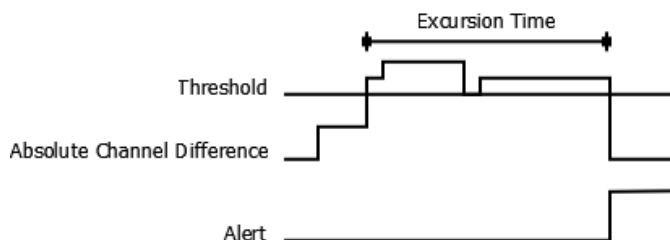
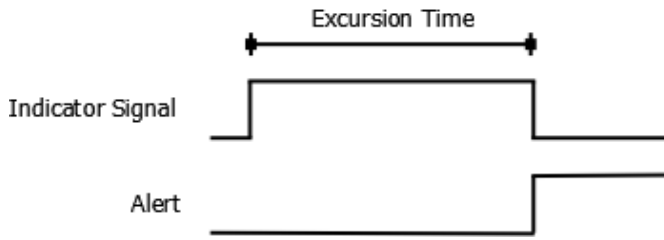
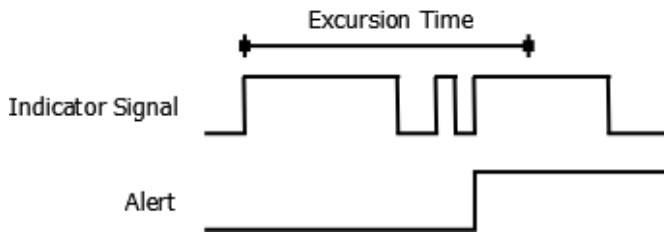

Figure 1 An Excursion Defined by the Absolute Channel Difference Equaling or Exceeding the Threshold Value for the Excursion Time Generates an Alert
Figure 2 An Excursion Defined by the Indicator Equaling a TRUE Value for the Excursion Time Generates an Alert
Figure 4 Multiple Excursion Defined by the Indicator Equaling a TRUE Value Within the Excursion Time Generates an Alert (Chatter Count = 3)
The fb_MultiChannelAlert, fb_ChannelAlert, and fb_IndicatorAlert blocks focus on channel supervision. Each adheres to the same principles of operation. An alert is generated when a sustained excursion occurs or when repeated excursions are detected. An excursion is defined as a channel, indicator, or function block output exceeding the threshold limit. For function blocks that accept a Boolean data type input, an excursion begins with a transition from a FALSE to TRUE state. For function blocks that accept measured values (MV) or REAL data type inputs, the absolute difference is calculated between the instantaneous values of two channels or a channel and a reference value. An excursion in this context is when the absolute difference exceeds a threshold value. The excursion time is used to define when an alert occurs. If a single excursion is sustained for a length of time defined by the excursion time, an alert is generated (*Figure 1* and *Figure 2*). If multiple excursions are detected equal to the chatter count within the excursion time, an alert is generated (*Figure 3* and *Figure 4*).